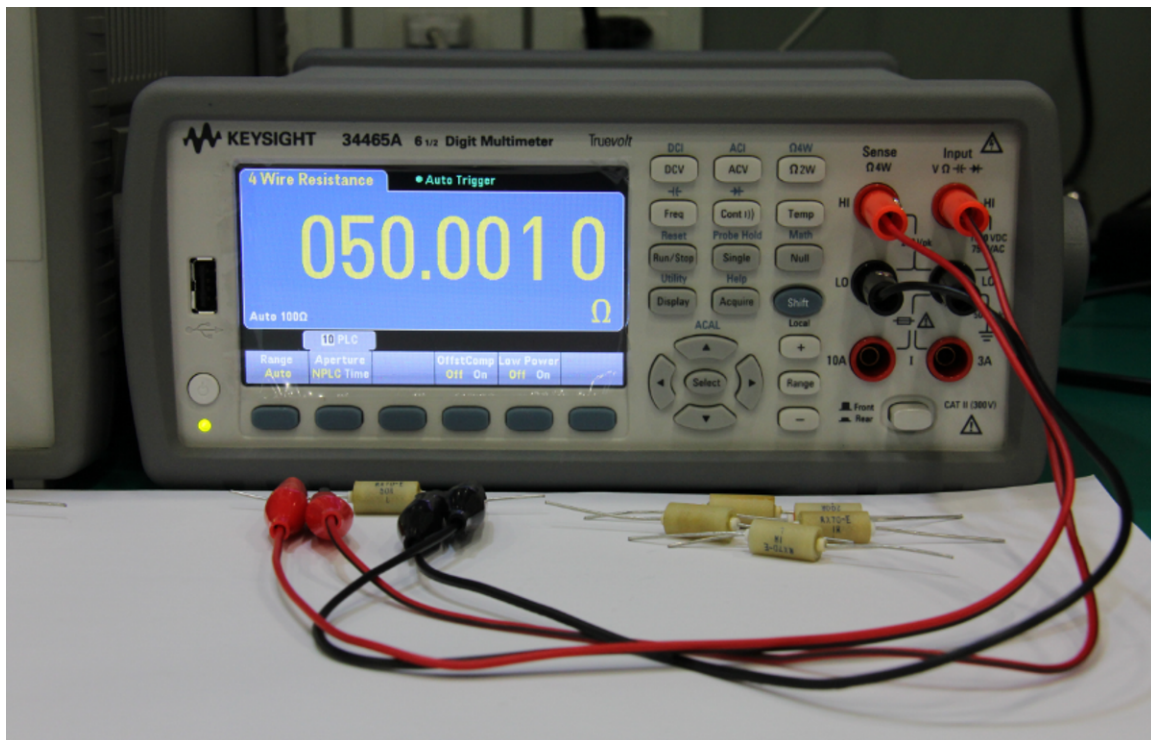
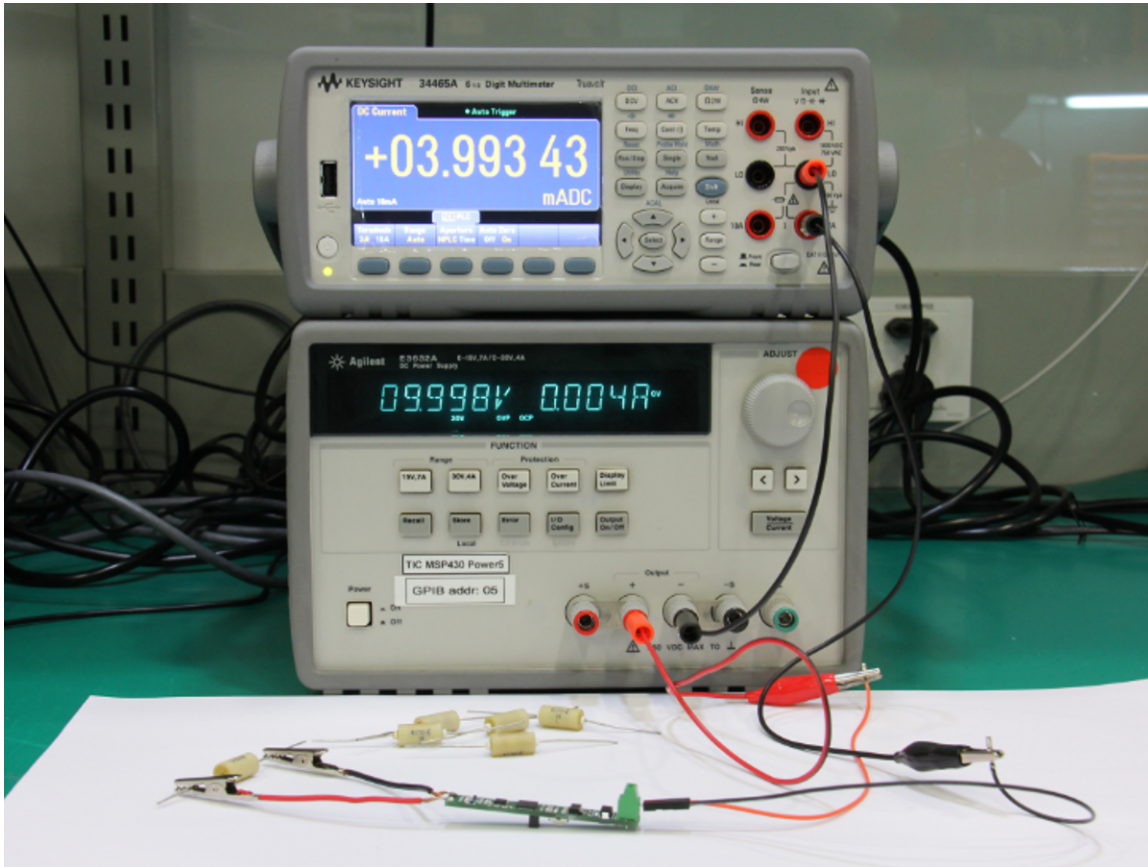

図 22. 4-Wire Resistance Measurement Using 6.5-Digit Multimeter
Figure 26. Complete System Maximum Measured Error Test
- 6.5-digit multimeter, to measure the high-precision resistors accurately using a 4-W resistance measurement method, as shown in 図 22
After correcting the ADC and SAC for gain and offset calibration, a complete system characterization was performed for maximum measured error. In this setup, a power supply and 6.5-digit multimeter were used for loop current measurement. As shown in Figure 26, multiple precision-resistor values were used, covering -200°C to 850°C , similar to those used in Figure 22.